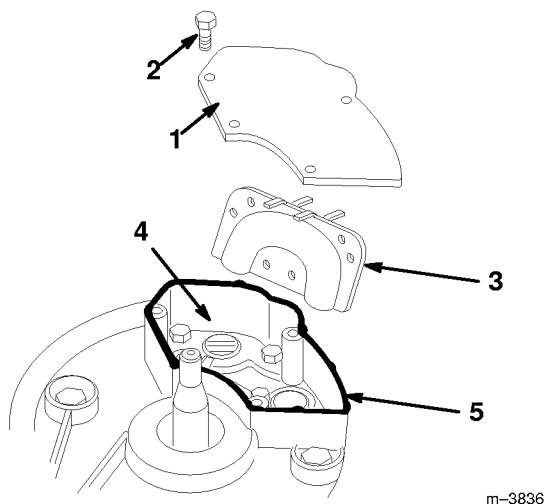

Figure 33
6. Remove (4) capscrews attaching cover plate to engine mounting plate (Fig. 33).
7. Remove transfer pipe (Fig. 33).
8. Rotate crankshaft slowly until piston covers exhaust port (Fig. 33).
12. Run a bead of high temperature, automotive silicone sealant along the edge of the engine mounting plate where the cover plate will rest (Fig. 33).
13. Reinstall transfer pipe and cover plate (Fig. 33), torquing the (4) capscrews to 75 in lbs (8.5 N·m).